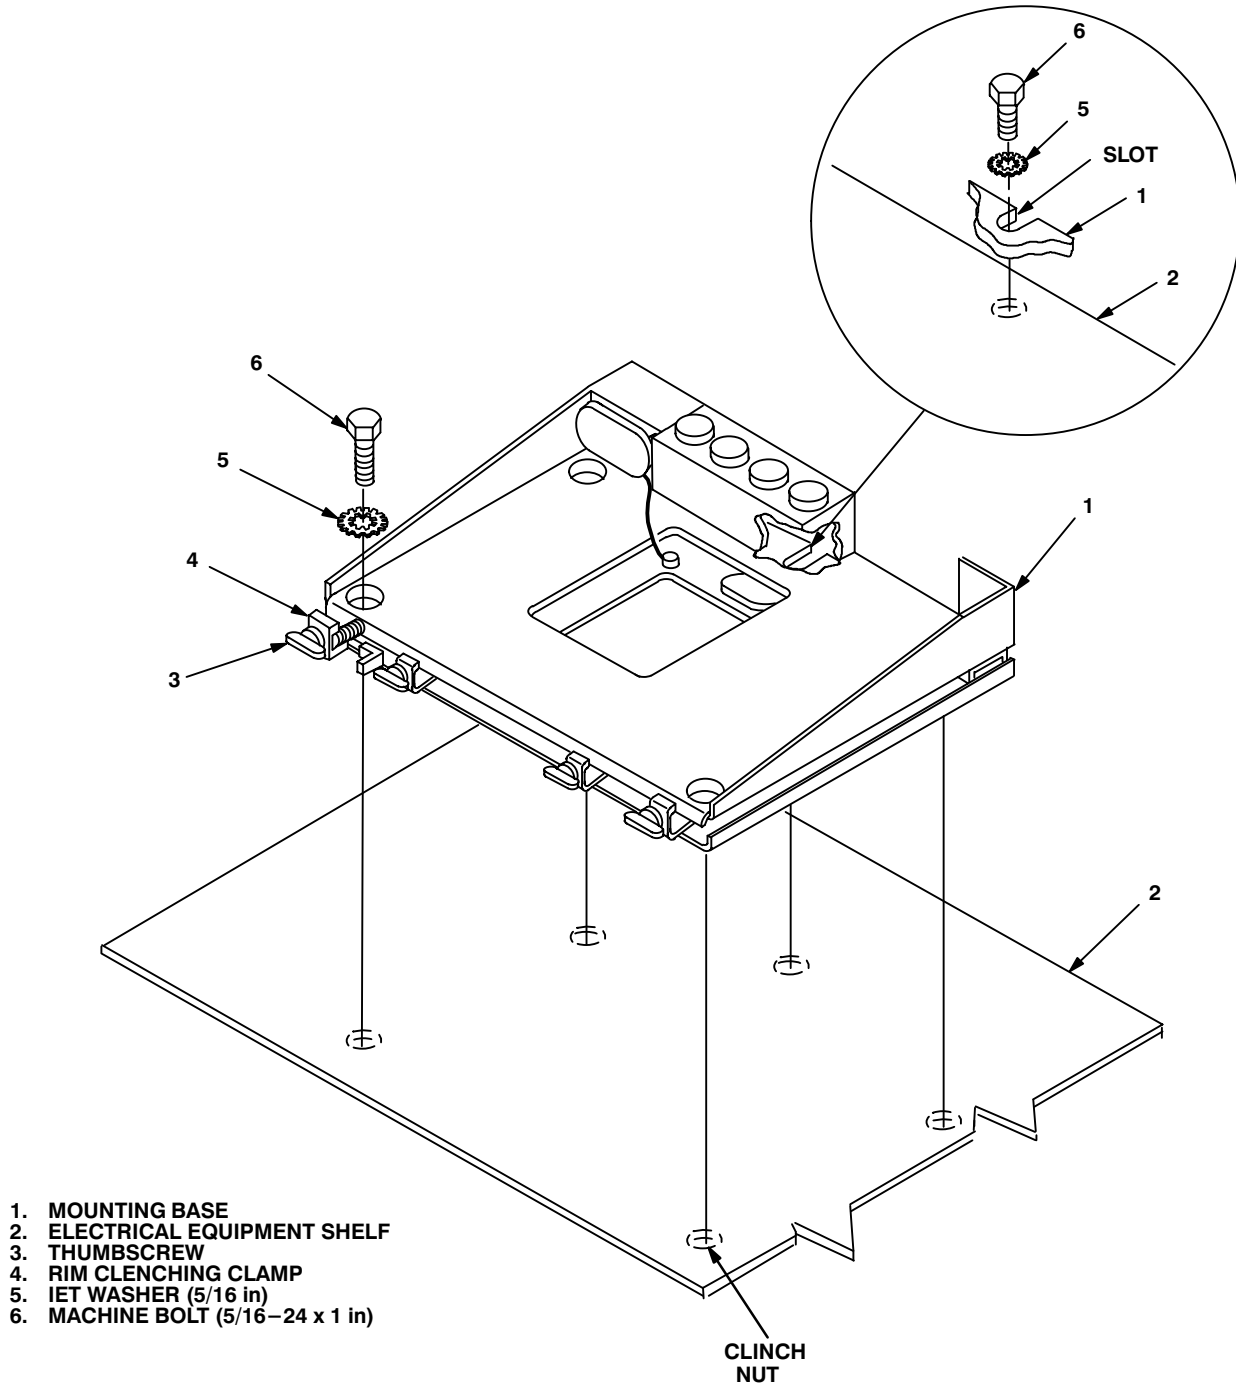

Figure 5-5. Mounting Base Installation
5.3 Installation of Mounting Base, Electrical Equipment MT-6352/VRC (mounting base). Remove and retain attaching bag of 5/16 in mounting hardware for installation. To insure good electrical grounding, any rust, corrosion or paint around mounting holes in electrical equipment shelf should be removed before installing the mounting base. See figure 5-5 and perform the following steps.